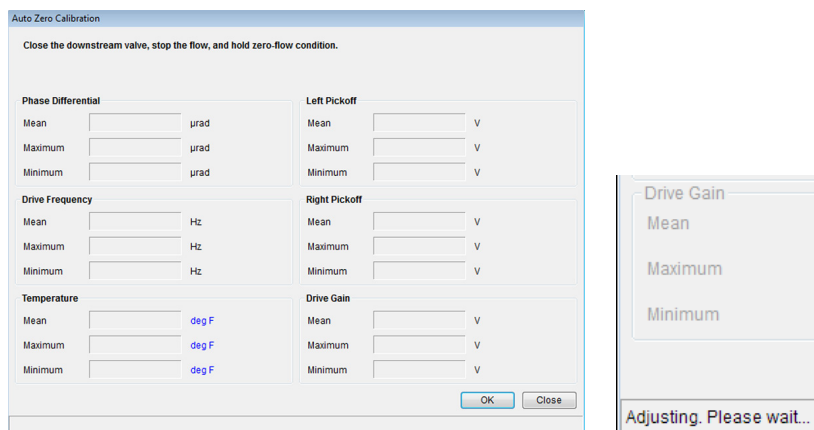

Figure 4.9—Sample Auto-Zero Calibration screen (left) and status indicator (right)
3. To access the *Auto Zero Calibration* screen (Figure 4.9, left), choose **Diagnostics/Service>Calibration>Auto Zero**.
5. Click **OK** and follow the screen prompts to complete auto zeroing. During auto zeroing, “Adjusting, Please wait...” appears in the bottom left of the screen, as shown in Figure 4.9, right.